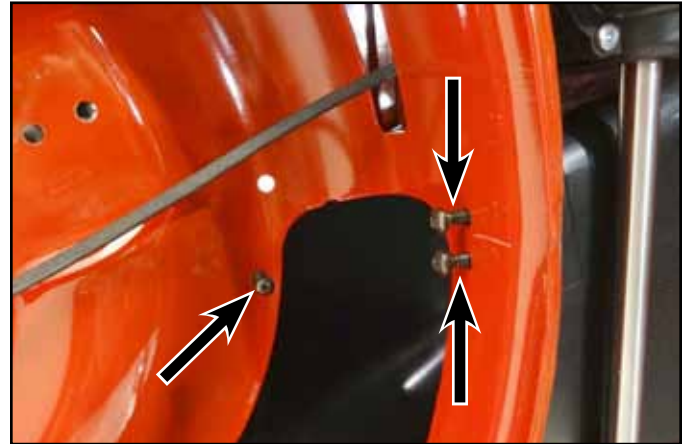

Fig. 158
4. Remove (3) screws from tunnel and remove tunnel.
**Note:** Although it is not necessary to remove this part it provides the best access to remove the transmission belt guide screws (Fig. 158).